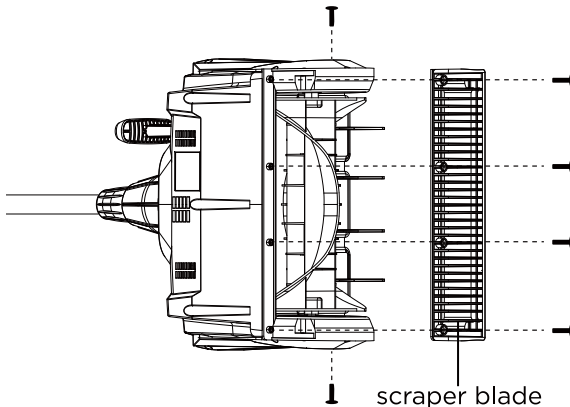

Fig. 6
3. Install the new scraper blade and fasten it securely to the snow thrower with the 6 screws. (See Fig.6)